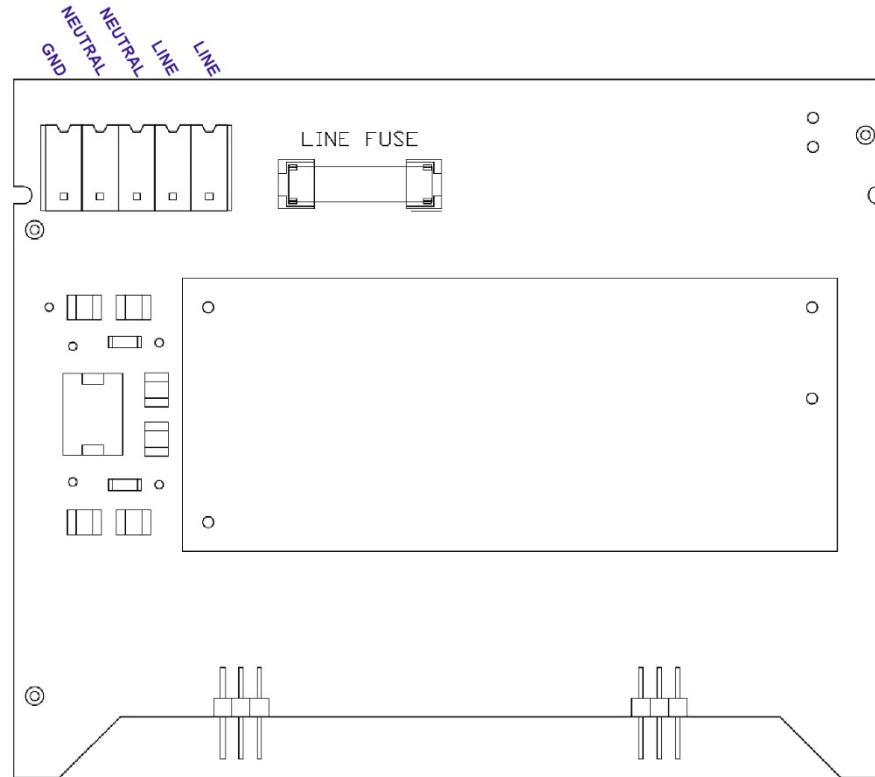

Figure 4. MU6E HVA Power Card
Switch 8 on the DIP switch — circled in *Green* in Figure 4 — controls whether transmitter/receiver association is UNLOCKED (1) or LOCKED (0). Most receivers ship from Cervis, Inc. with the association DIP switch locked (0). This switch can be manually and virtually unlocked to associate additional transmitters, if necessary (see Section 4.3).